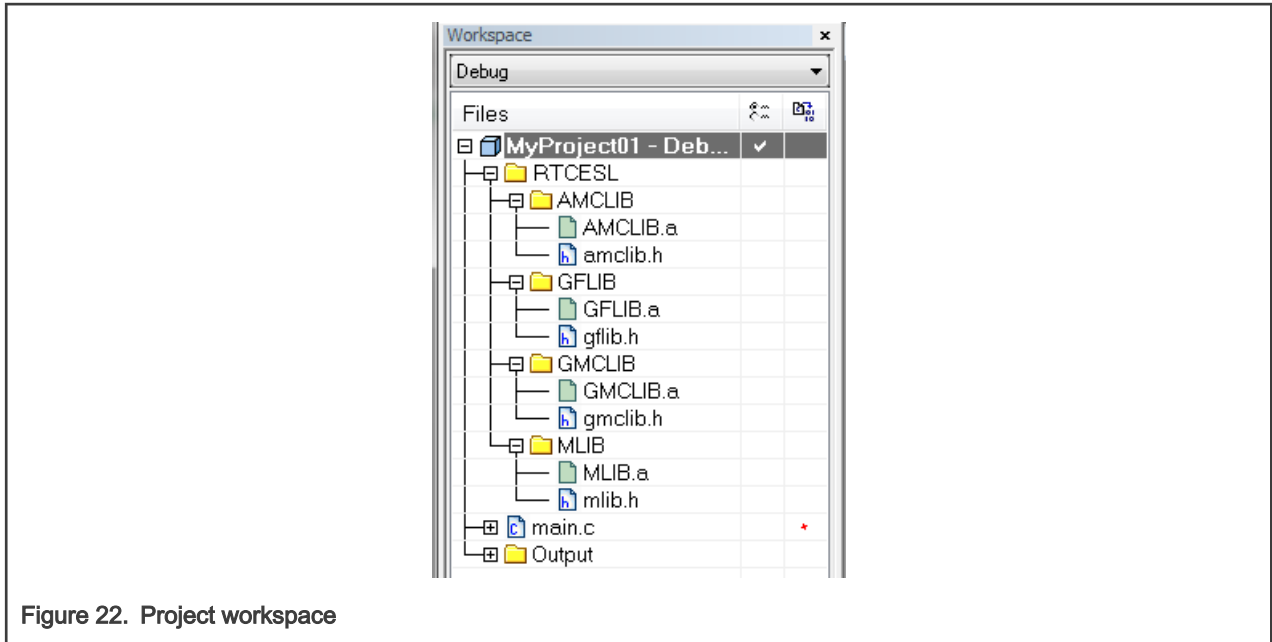

Figure 22. Project workspace
4. Click on the newly created node MLIB, and go to the main menu Project > Add Files... See Figure 22.
23. Now you will see the files added in the workspace. See Figure 22.